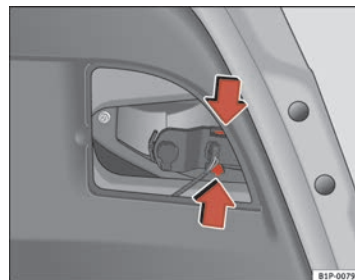

Fig. 173 Removing the bulb holder
- Take the bulbholder out pressing on the securing pins and extract it outwards ⇒ fig. 173.